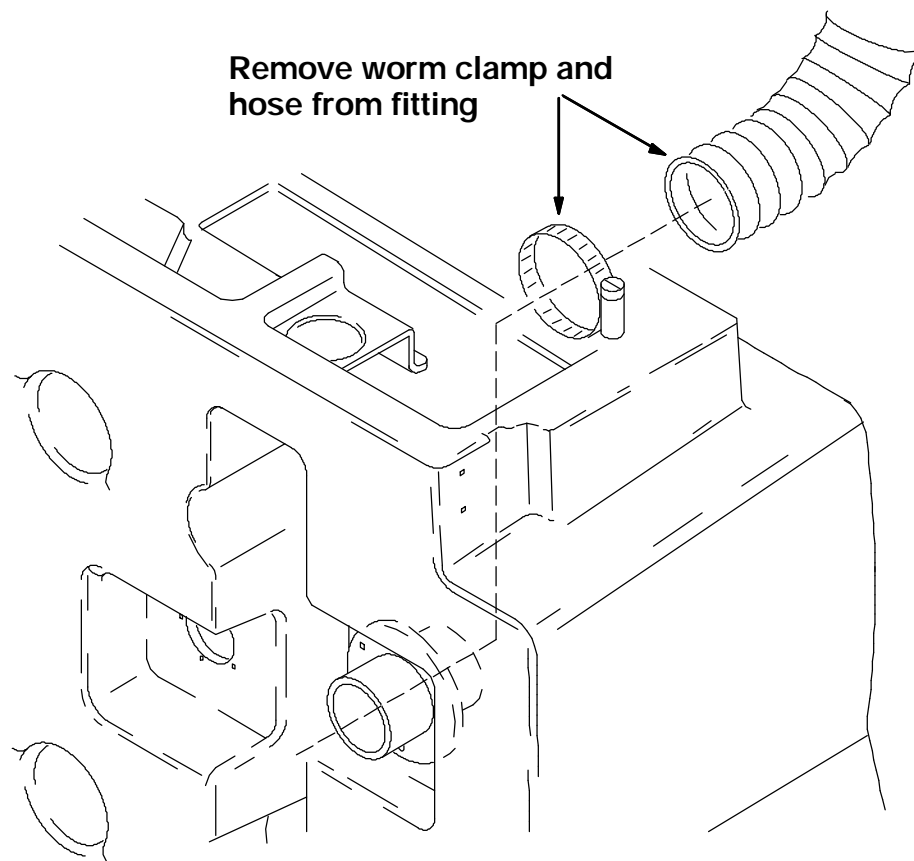

FIG. 2 - Remove Worm Drive Clamp And Hose From Fitting Inside Tank
4. Remove the worm drive hose clamp holding the in-tank hose to the plastic fitting. Remove the plastic fitting from the machine and discard. Retain the gasket. (Refer to FIG. 2)